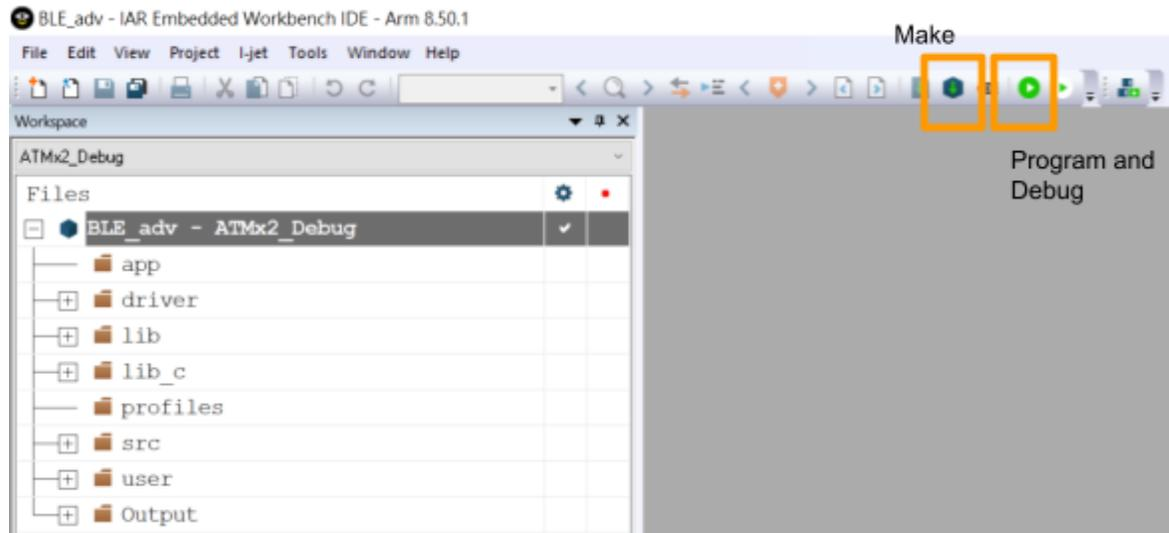

Figure 3 - IAR Workbench GUI
- Figure 3 - IAR Workbench GUI